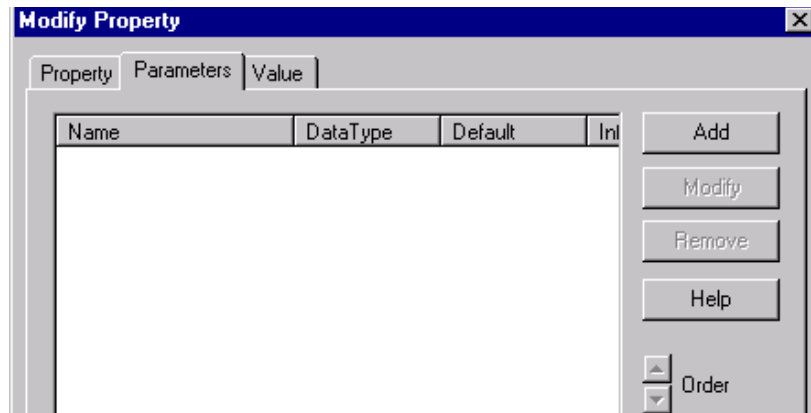

Figure 146. User Parameters Dialog for SET_COLOR
2. Click on the **Parameters** tab in the Modify Property dialog, Figure 146.